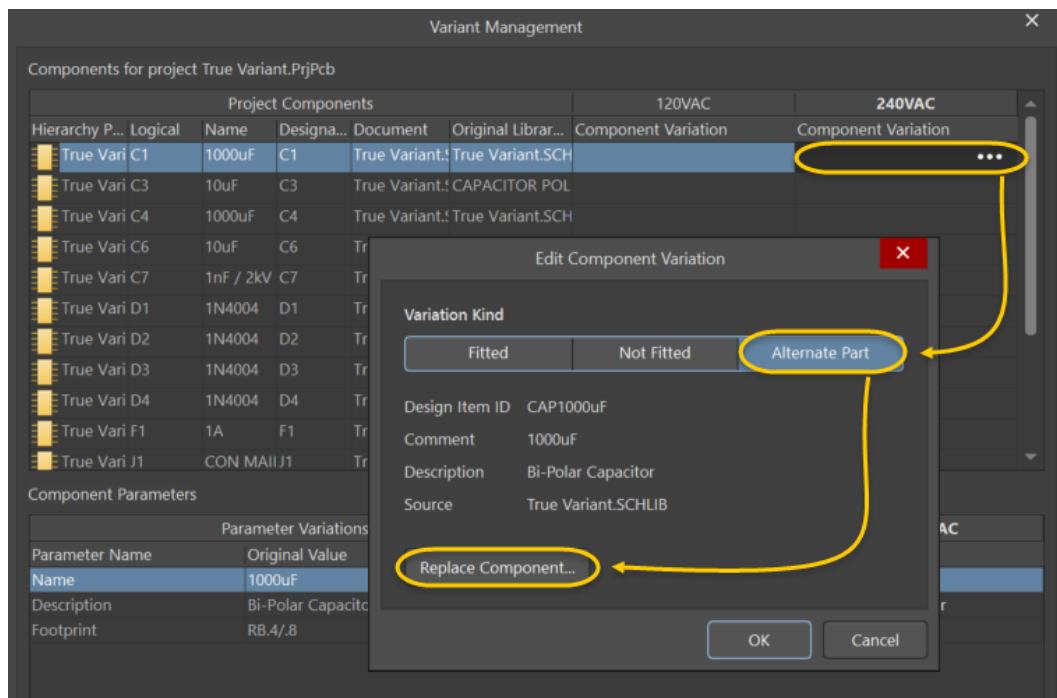

Figure 11. Selecting an Alternative Part
33. Select **Replace Component...** to begin selecting the appropriate part as shown in Figure 11.